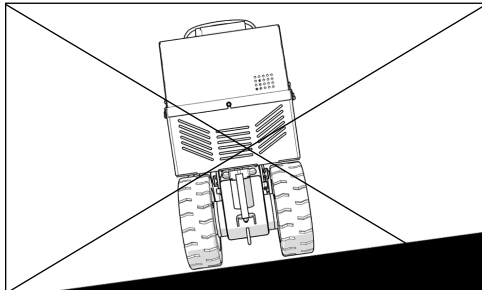

FIG. 3
**WARNING:** MACHINE HAS A SWIVEL FRONT CASTER. NEVER SIDE HILL (FIGURE 3) THE MACHINE ON AN INCLINE WITHOUT POWER, THE FRONT CASTER WILL CAUSE MACHINE TO SWING TO THE LOWEST POINT. IF IT IS NECESSARY TO RUN MACHINE ON AN INCLINE, RUN MACHINE ON CUTTING HEAD. PLACE AT LEAST A 8" CUTTING HEAD IN MACHINE. TO KEEP FROM DAMAGING FLOOR, CLAMP A PIECE OF CARPET INTO CUTTING HEAD. THIS WILL GIVE POSITIVE CONTACT WITH THE FLOOR WHEN POWER IS DISENGAGED FROM THE WHEELS.